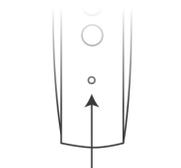

Figure 2
2. Press and hold the programming button on the back of the remote/wall switch until the shade jogs (short up and down motion), then release the button immediately. Operate the shade to confirm assignment (Fig. 2).